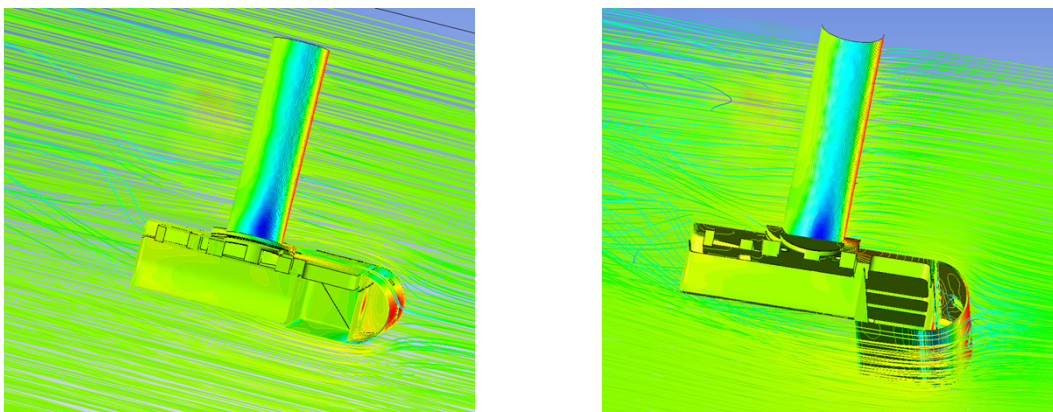
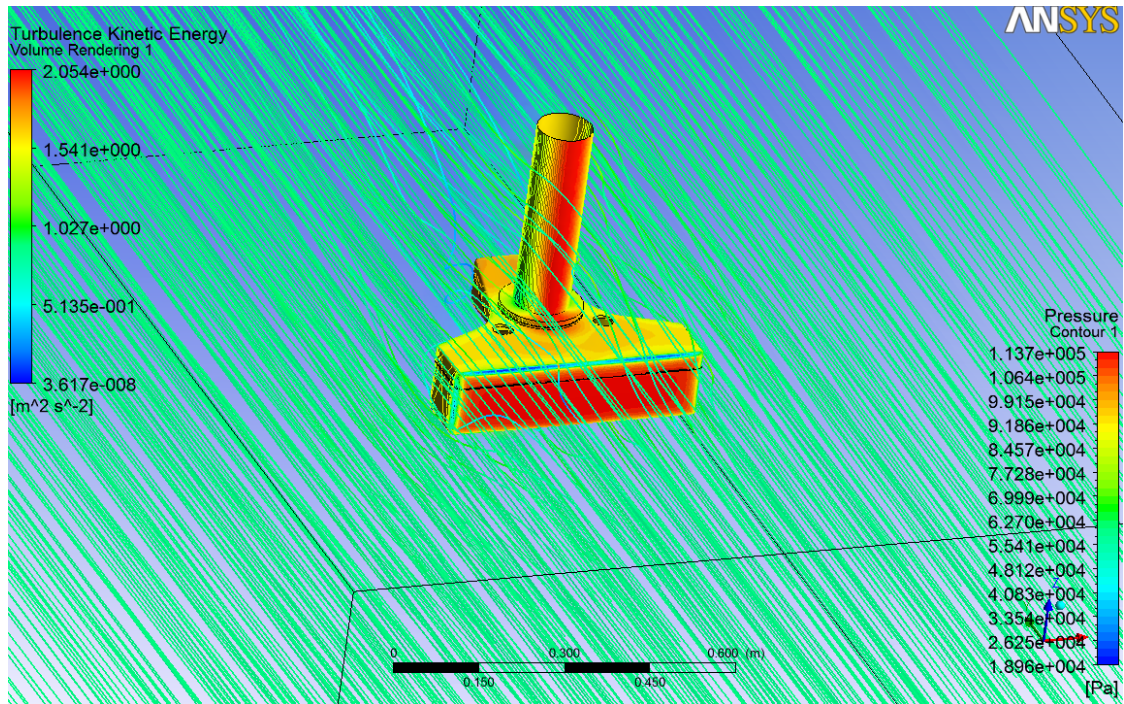
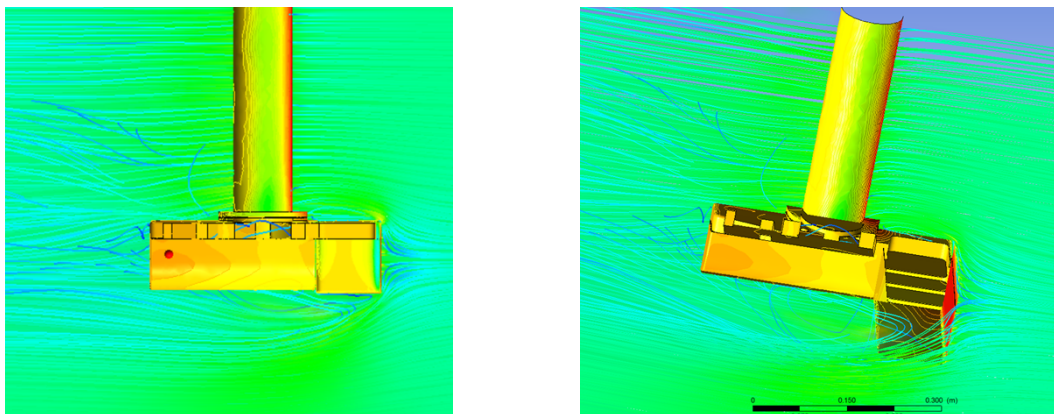

Figure 52: Flow around Single T50 (shallow) with Fairing, Cross Section of Symmetry Plane
Figure 53: Flow at 10 knots around Single T50 (shallow) without Fairing
Figure 54: Flow around Single T50 (shallow) without Fairing, Cross Section of Symmetry Plane
- T50 single head (shallow¹⁹) **with** front fairing (*Figure 51* and *Figure 52*) or **without** front fairing (*Figure 53* and *Figure 54*).
Figure 51 illustrates the flow at 10 knots around the T50 single head (shallow) with front fairing. The drag on the pole, sonar head, and bracket is in the region of 650N. The same situation without front fairing is shown in Figure 53.
Figure 52 is a cross section of the symmetry plane of the T50 single head (shallow). The front fairing and bracket assure a steady water flow around the receiver and projector. The same situation without front fairing is shown in Figure 54.
Figure 53 illustrates the flow at 10 knots around the T50 single head (shallow) without front fairing. The drag on the pole, sonar head, and bracket is in the region of 1000N. The same situation without front fairing is shown in Figure 51.
Figure 54 is a cross section of the symmetry plane of the T50 single head (shallow). Without the front fairing the flow is still reasonable, but not as steady as with the fairing in front of the receiver. The same situation with front fairing is shown in Figure 52.